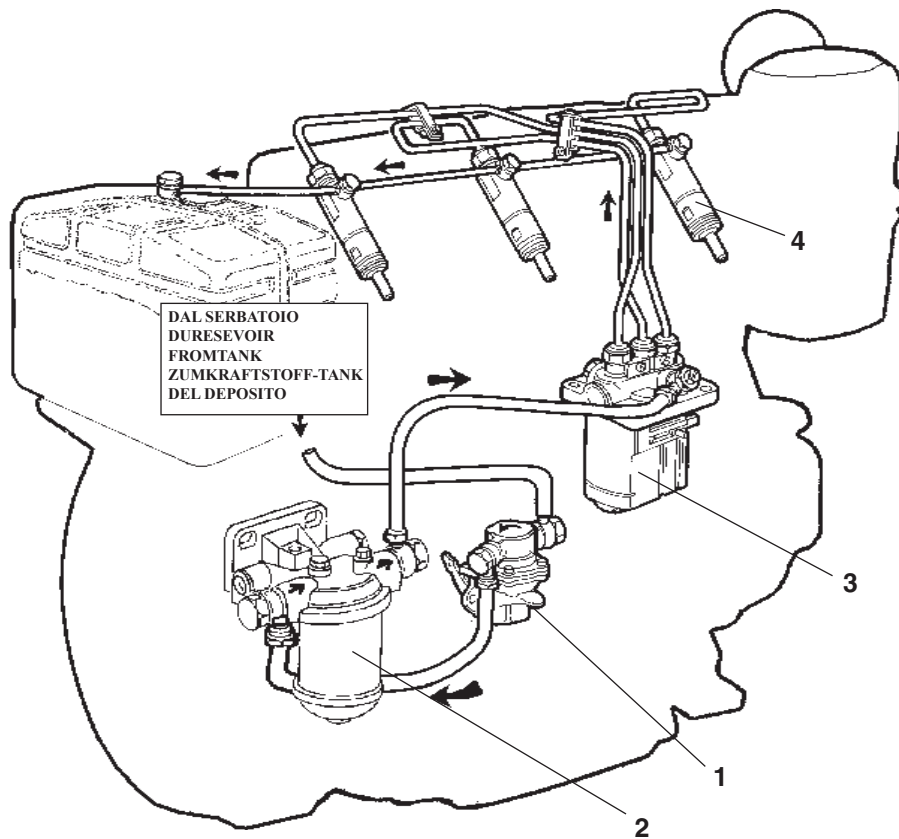

Fig. 2.3 - Abb. 2.3
2.3 CIRCUITO COMBUSTIBILE**(FIG. 2.3) 2-3 cilindri**
2.3 CIRCUIT D'ALIMENTATION**(FIG. 2.3) 2-3 cylindres**
2.3 FUEL CIRCUIT**(FIG. 2.3) 2-3 cylindres**
2.3 KRAFTSTOFFANLAGE**(ABB. 2.3) 2-3 Zylinder**
(FIG. 2.3) 2-3 cilindros